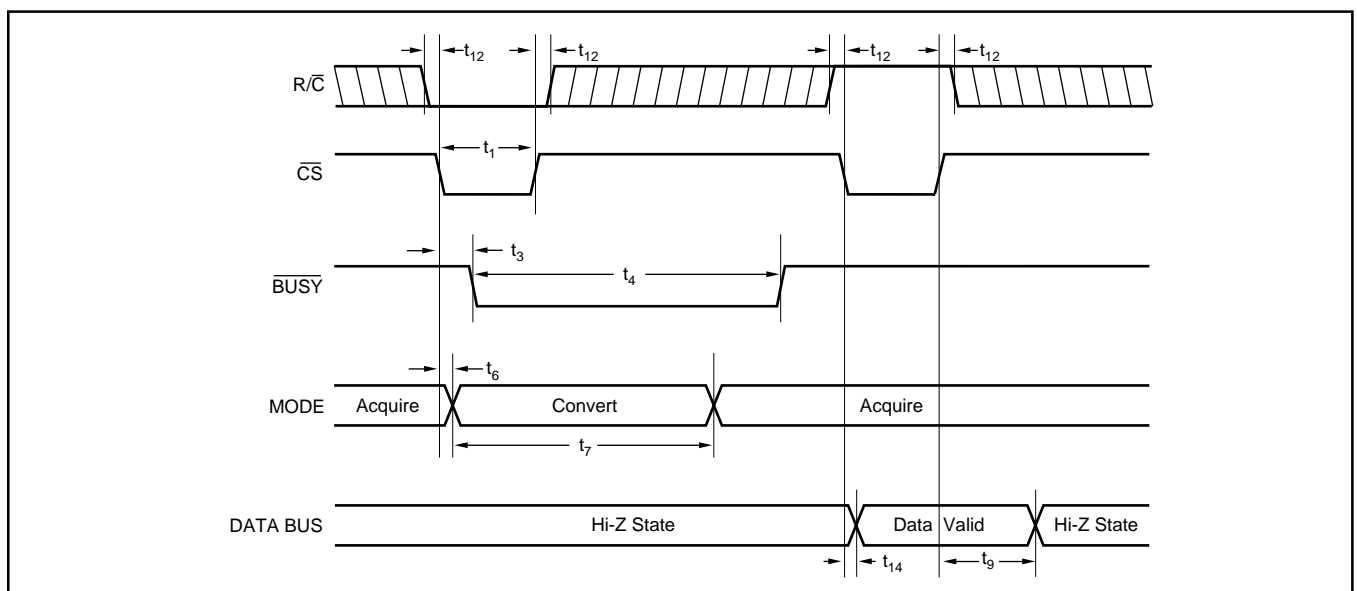

FIGURE 4. Using \overline{CS} to Control Conversion and Read Timing.
NOTES: (1) LSB means Least Significant Bit. For the 12-bit, $\pm 10\text{V}$ input ADS7804, one LSB is 4.88mV. (2) Typical rms noise at worst case transitions and temperatures. (3) As measured with fixed resistors shown in Figure 4. Adjustable to zero with external potentiometer. (4) Full scale error is the worst case of -Full Scale or +Full Scale untrimmed deviation from ideal first and last code transitions, divided by the transition voltage (not divided by the full-scale range) and includes the effect of offset error. (5) All specifications in dB are referred to a full-scale $\pm 10\text{V}$ input. (6) Full-Power Bandwidth defined as Full-Scale input frequency at which Signal-to-(Noise + Distortion) degrades to 60dB, or 10 bits of accuracy. (7) Recovers to specified performance after 2 x FS input overvoltage.